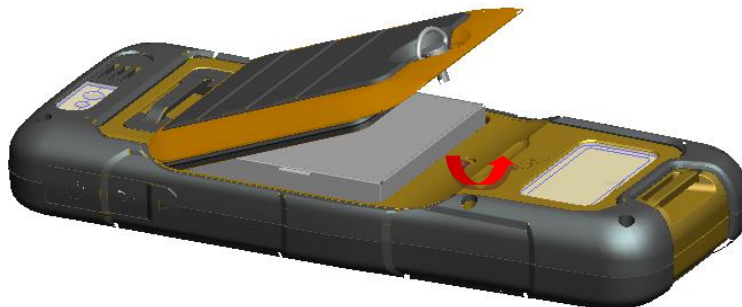

Figure 6.6 Take off the back cover
2. **Take off the back cover:** Remove the back cover by lifting it up from the bottom part as shown in Figure 6.6.